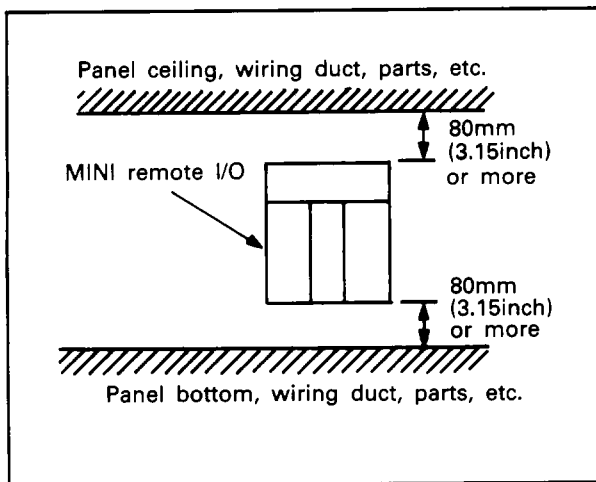

Fig. 4.1 Installing position of unit
- (1) To provide good ventilation and to make unit replacement easy, allow a clearance of 80mm (3.15inch) or more between the top side of the unit and surrounding structure or parts. (See Fig. 4.1.)
- (2) Choose a flat surface for mounting the unit. Waves and warpage of the mounting surface will cause printed circuit boards in the unit to be strained or twisted, which lead to malfunction.
- (3) Mount the unit on a separate panel or away from large electromagnetic contactors and no-fuse circuit breakers which produce vibrations.